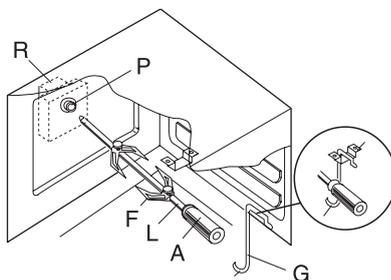

fig. 10
- Put the food on the spit (L) and secure it so that it is firmly attached and evenly distributed using the hooks (F). See fig. 10.
- Push the rotary spit into the opening (P) of the coupling and lay it at the front in the hook (G). Remove the handle (A).